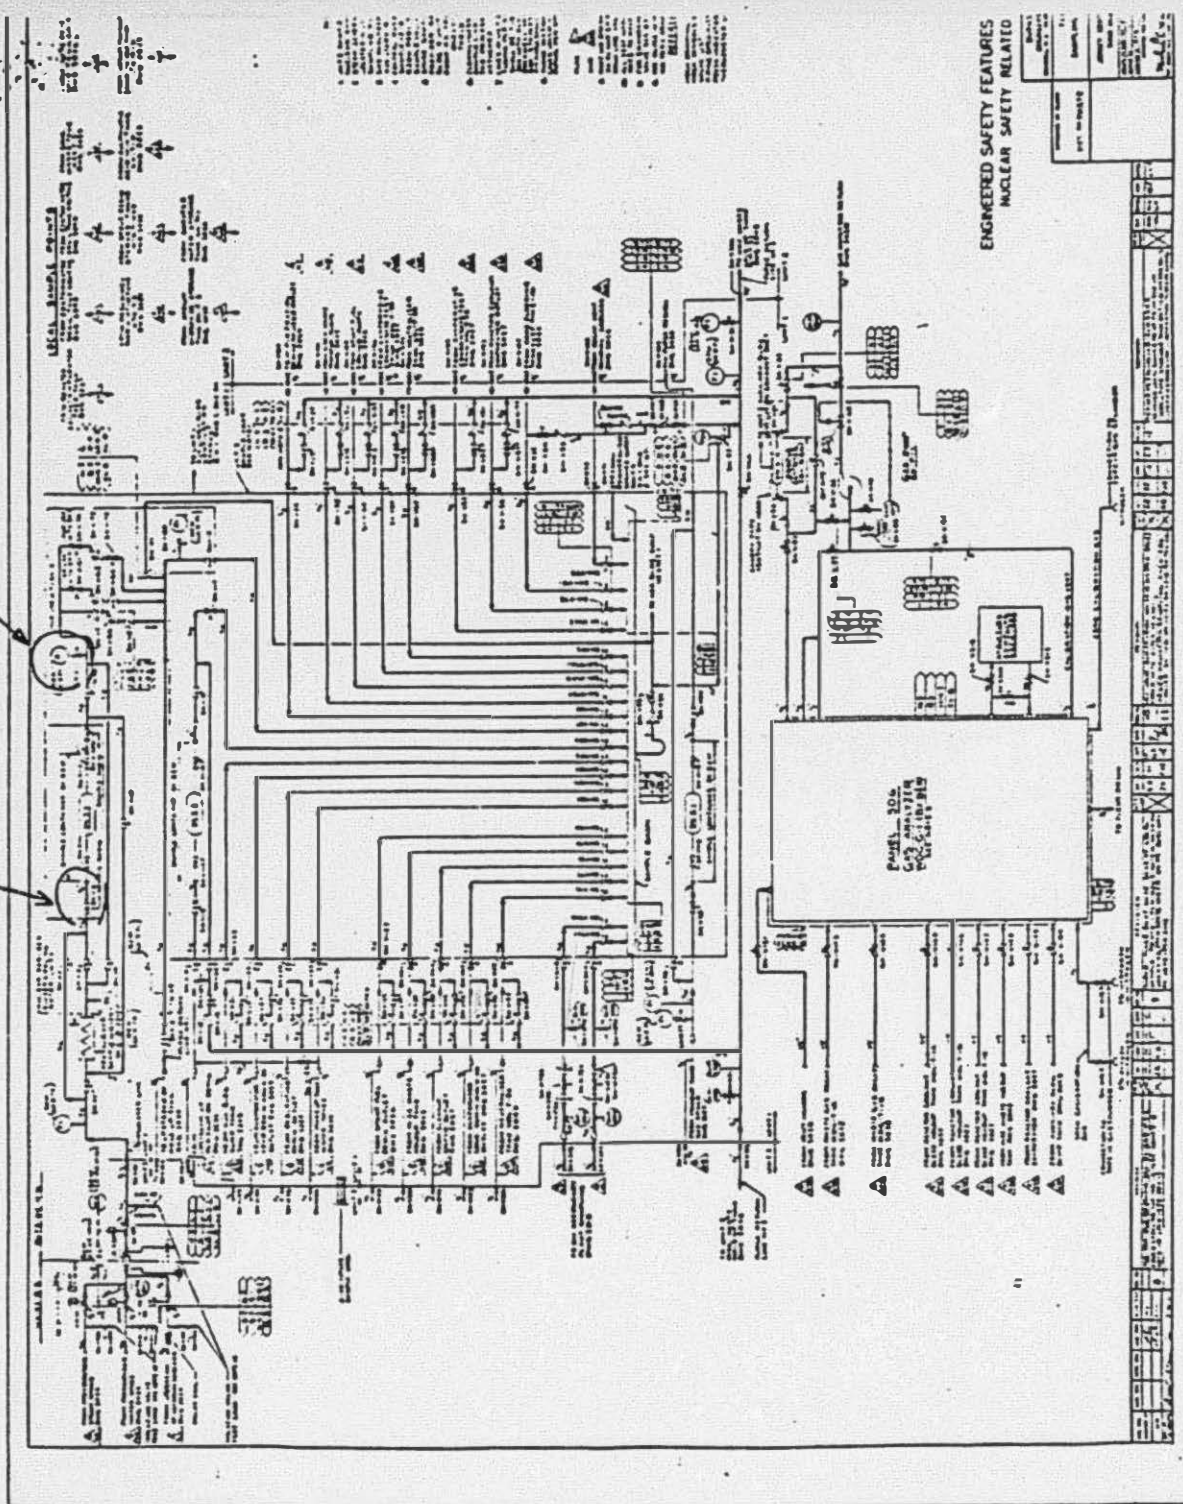

Figure 2
• Partial Figure 2 Ref. Dwg 2031